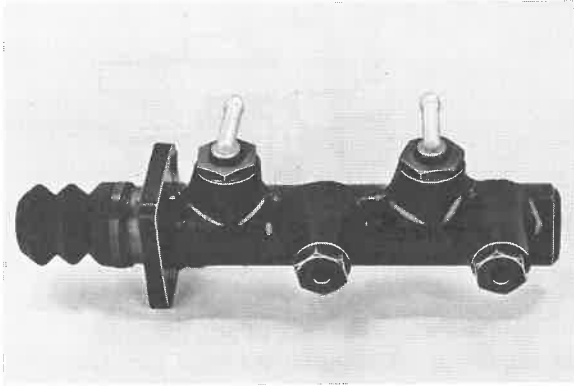

Fig. 52-16. Master cylinder removed
8. Remove the four retaining bolts and lift forward the master cylinder, see Fig. 52-16.